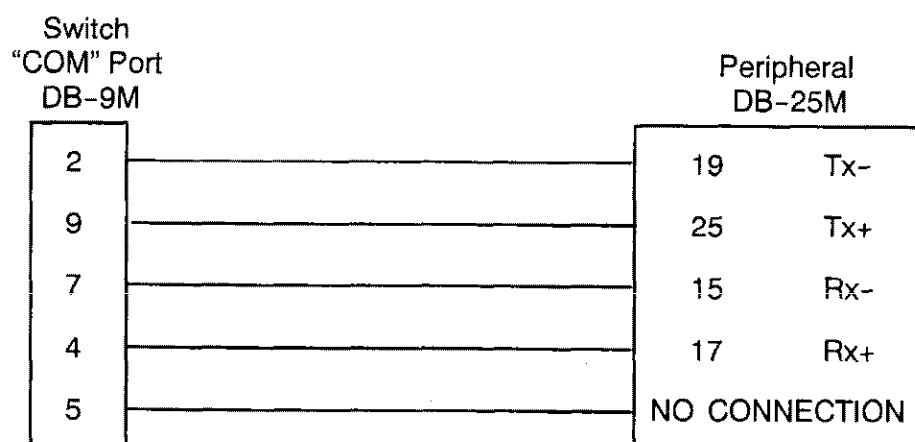

FIGURE 12-11. SWITCH TO PERIPHERAL (P2)
- 23 Connect cables from peripherals to the main port on the corresponding A/B switch card. If using the Star Gate PLUS-8 peripheral interface board refer to figure 12-11 for pin out of cable P2. If using the Digi International ClassicBoard 8 peripheral interface board refer to figure 12-14 for pin out of cable P2A.